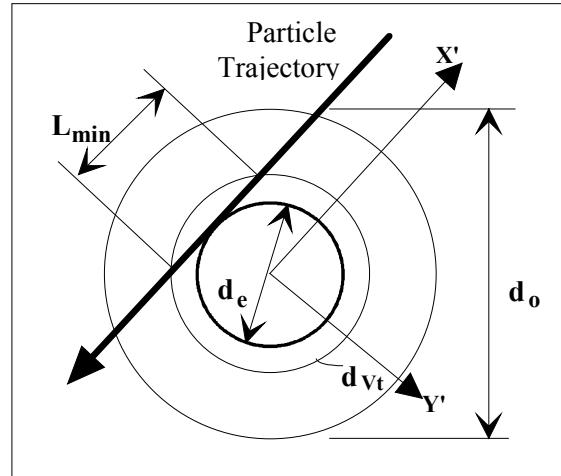

Figure 7-63: Definition of the effective measurement volume diameter (d_o is the measurement volume diameter at the $1/e^2$ -intensity points).
i.e. as a function of particle size (d_p) and position, where x' and y' are the particle location in the coordinate system. An example particle trajectory is shown in Figure 7-63. Assuming that only signals exceeding a certain minimum burst length (L_{min}) will be accepted, an effective measurement volume diameter d_e , as illustrated in Figure 7-63 can be defined.